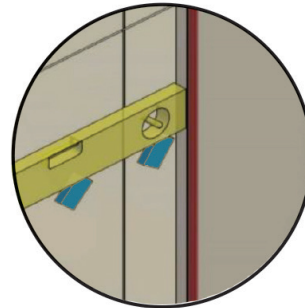

FIG 24.
- Remove plastic backing from stabiliser blocks and press firmly onto wall (**FIG 24**).